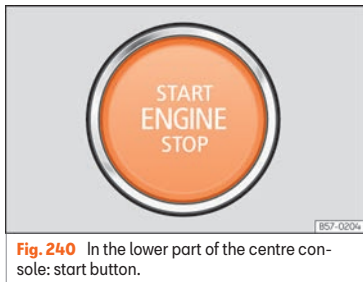

Fig. 240 In the lower part of the centre console: start button.
- Press the starter button  » Fig. 240; do not press the accelerator. There needs to be a valid key inside the vehicle for the engine to start. After starting the engine, the lighting of the **START ENGINE STOP** button changes to steady lighting, indicating that the engine has started.